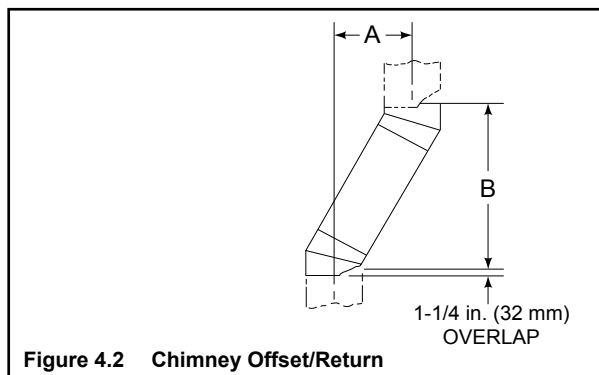

Figure 4.2 Chimney Offset/Return
- Measure the shift needed to avoid the overhead obstruction. Refer to dimension A in Figure 4.2.